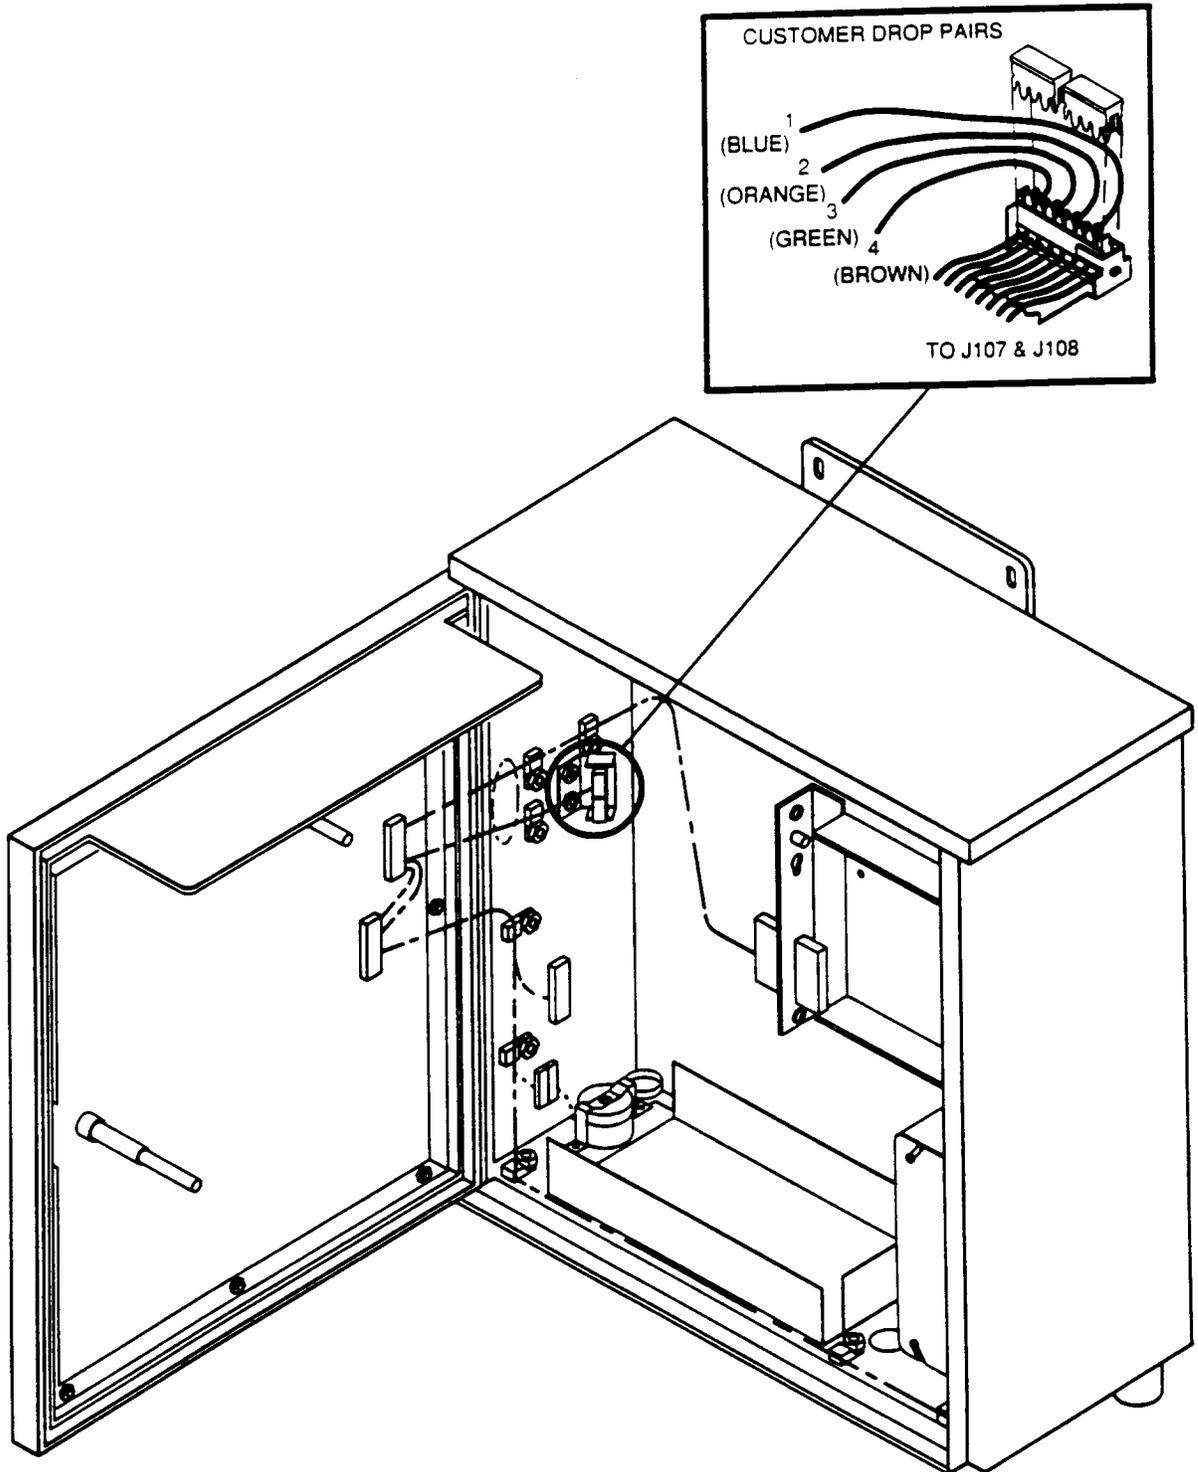

Figure 1—Customer Drop Pairs Access in DT Cabinet
21. For **BUSY** indicator, verify no channels are in use and remove connections at the NIU. At 108 connect block (Fig. 1) remove Tip-Ring pairs to NIU and observe **BUSY** indicator.